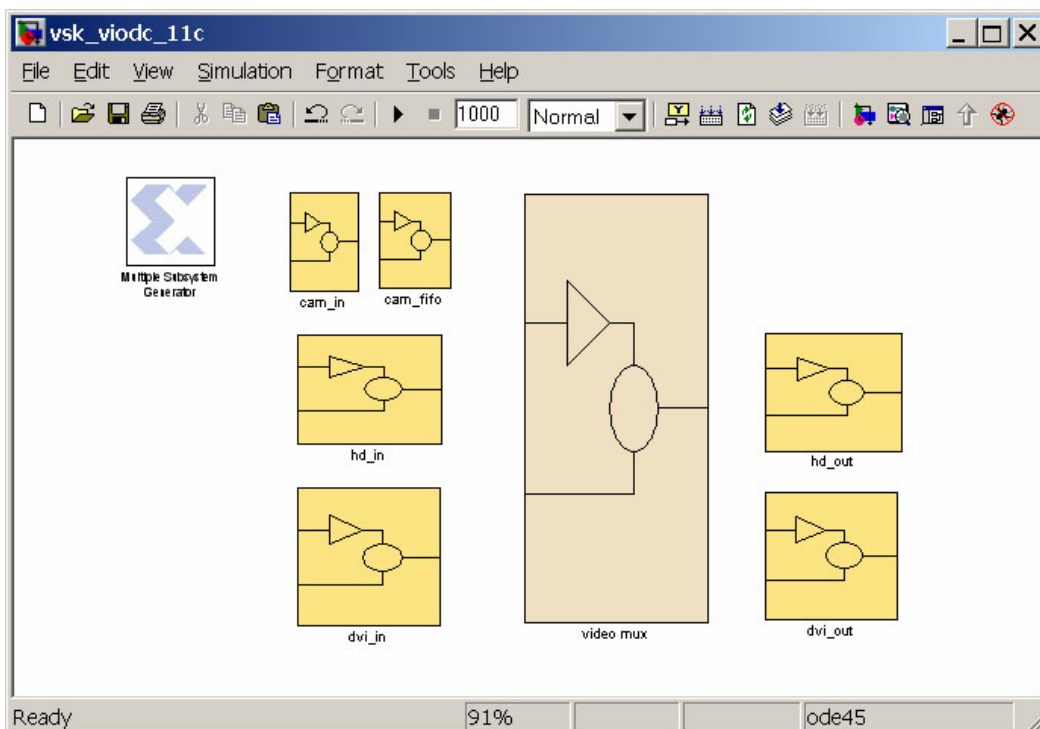
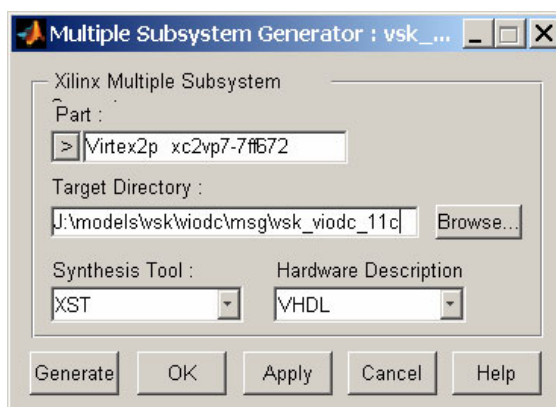

Figure 7-2: vsk_viodc_11c Top Level
Figure 7-3: MSG Generate Block
1. Open the top-level design `vsk_viodc_11b.mdl` (Figure 7-2) and open the Multiple Subsystem Generator block (Figure 7-3).